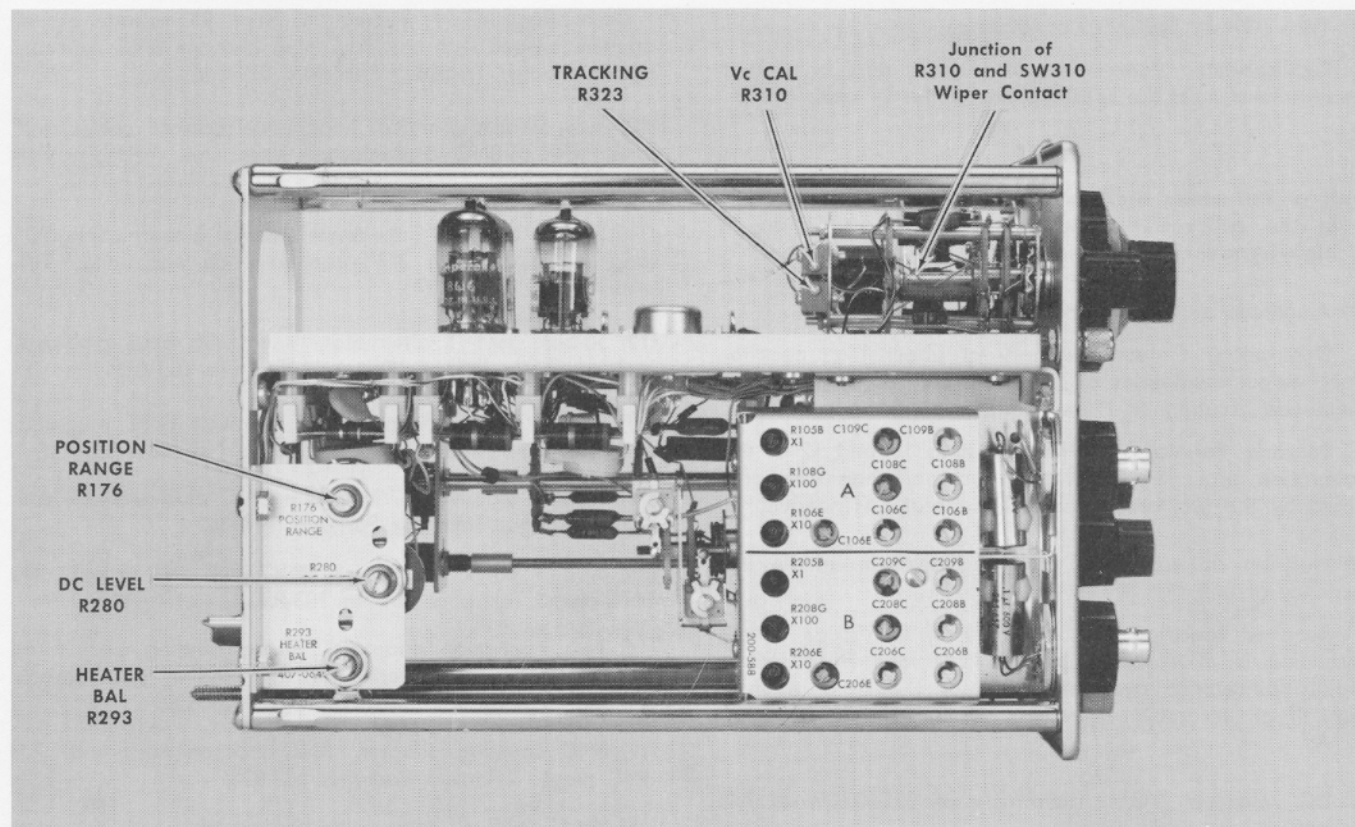

Fig. 5-1. Location of the calibration adjustments (left-side view; securing rod removed for picture).
a. Set the non-loading voltmeter (item 3) to +11 volts.
c. Adjust the Vc CAL control R310 (see Fig. 5-1) for a null reading on the meter.
- c. Adjust the TRACKING control R323 (see Fig. 5-1) for a null reading on the meter.
- c. Adjust the POSITION RANGE control R176 (see Fig. 5-1) so the trace coincides with graticule center.
- b. Adjust the DC LEVEL control R280 (see Fig. 5-1) to obtain a reading of 6 volts on the VOM.
b. As a preliminary adjustment, slowly adjust the HEATER BAL control R293 (see Fig. 5-1) to center the trace. Due to thermal drift, allow some time for the trace to stabilize to be sure the trace stays centered.